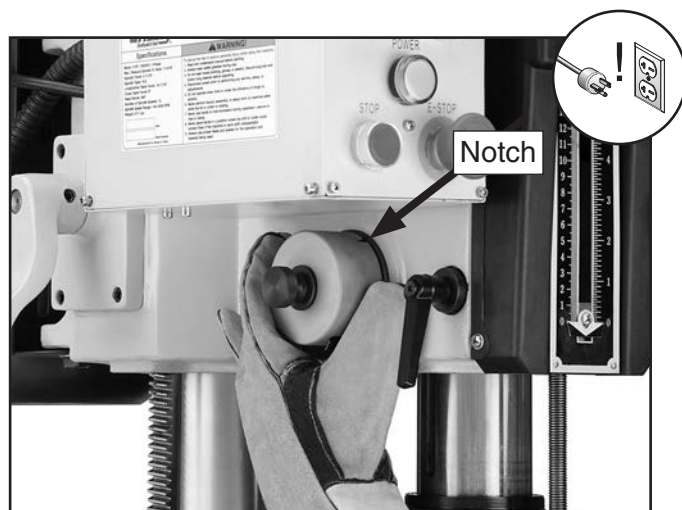

Figure 60. Adjusting spring tension.
5. Rotate the cover to adjust the tension. Push the cover back in to engage the roll pin in one of the notches, as shown in **Figure 60**.